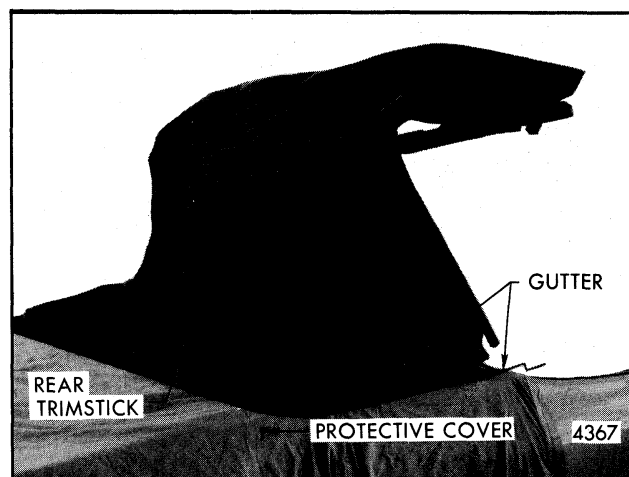

Fig. 8-90-Rear Trimstick on Rear Deck of Car
- c. Duplicate lifting operation on opposite side of body, and position center bow, rear trimstick and gutter assembly on protected rear deck of car (Fig. 8-90).